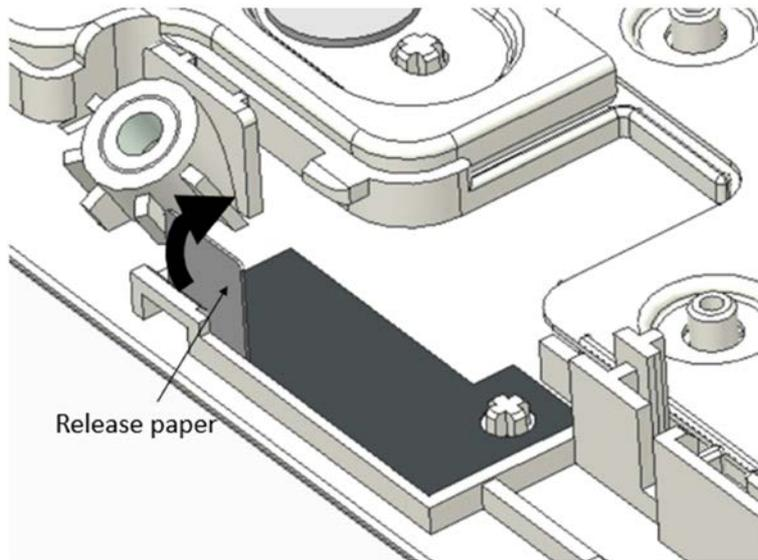

Figure 4-12 Removing the release paper of sensor board adhesive
1. Seat the sensor board in the correct position and secure it in place with adhesives on the upper cover as shown in Figure 4-12.